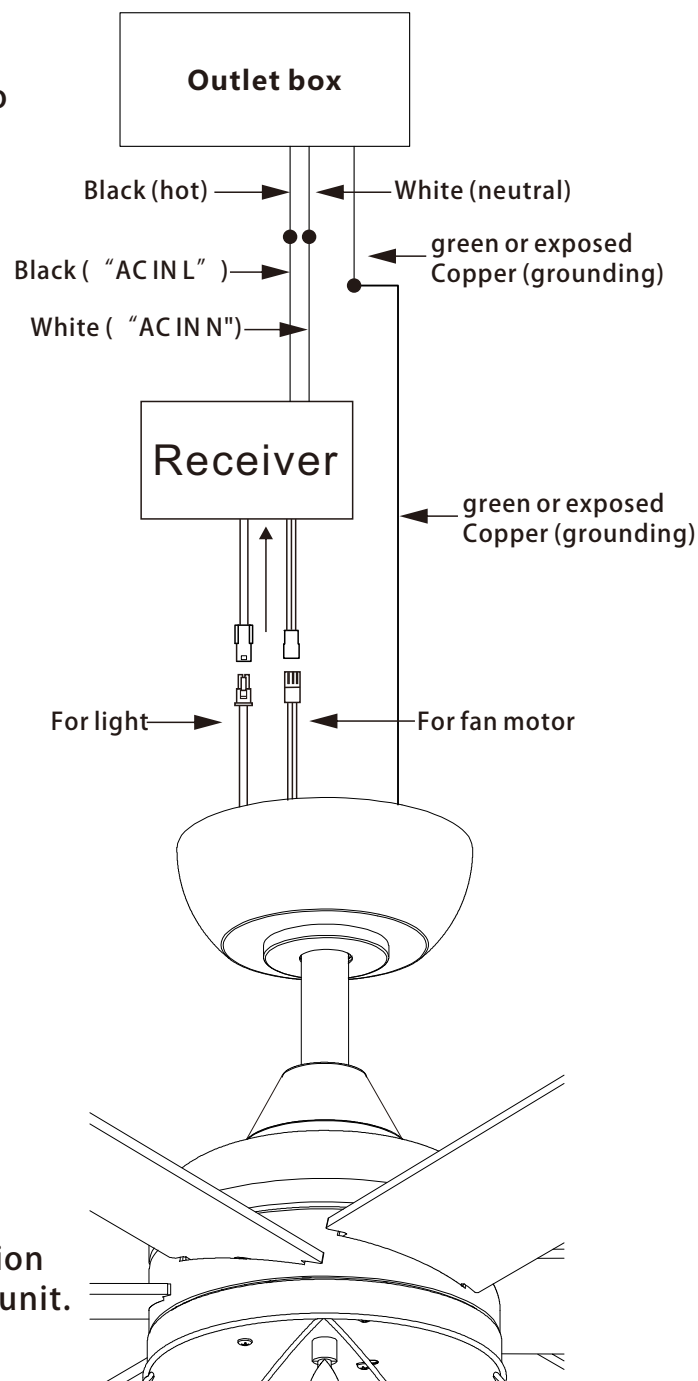

Figure 15
Electrical connection from the motor to the receiver: (Figure 15)
Step 2. (Fig.15) Receiver to House Supply Wires Electrical Connections: Connect the Black (hot) wire from the ceiling to the black wire marked "AC in L" from the receiver. Connect the white (neutral) wire from the ceiling to the white wire marked "AC in N" from the Receiver. Secure the wire connections with the plastic wire nuts provided.
Step 3. (Fig.15) If your outlet box has a ground wire (green or bare copper) connect it to the fan ground wires and the receiver ground wire; otherwise connect the hanging bracket ground wire to the fan and the receiver ground wire. Secure the wire connection with a plastic nut provided. After connecting the wires, spread them apart so that the green and white wires are on one side of the outlet box and other wires are on the other side. Carefully tuck the wire connections up into the outlet box.